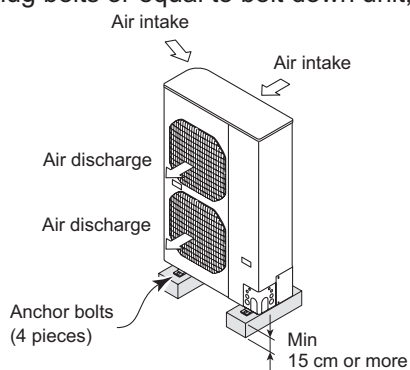

Fig. 1-13
- Provide a solid base (concrete block, 10 × 40 cm beams or equal), a minimum of 15 cm above ground level to reduce humidity and protect the unit against possible water damage and decreased service life. (Fig. 1-13)